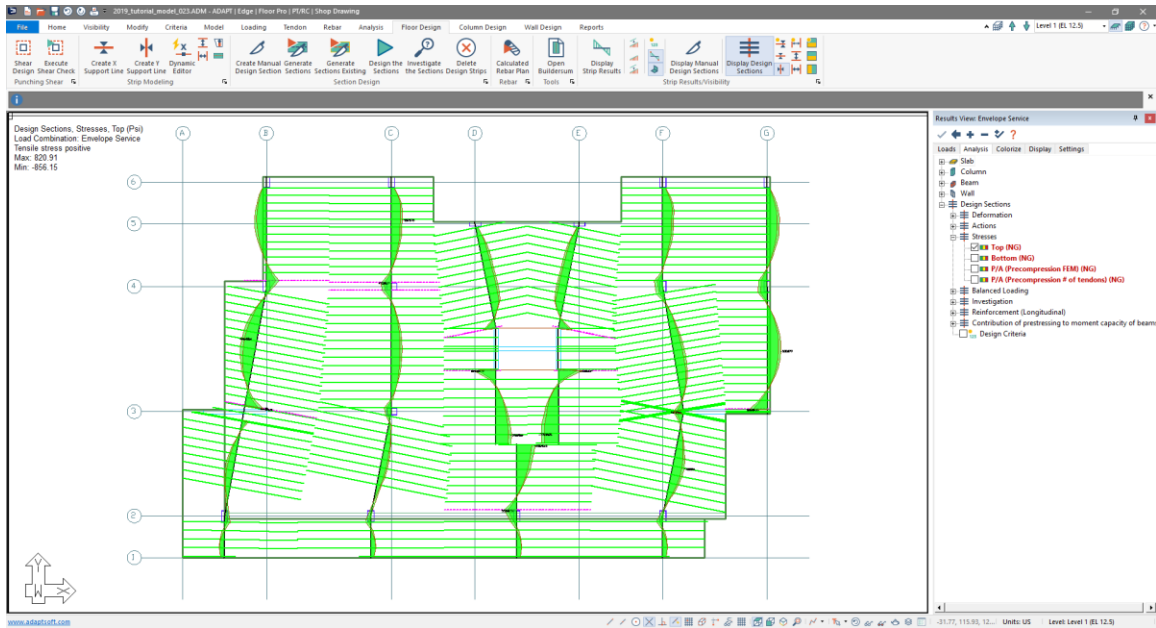

Figure 9-84
- The user should now see the top stress values along the Y-direction support lines as shown in **FIGURE 9-84**.